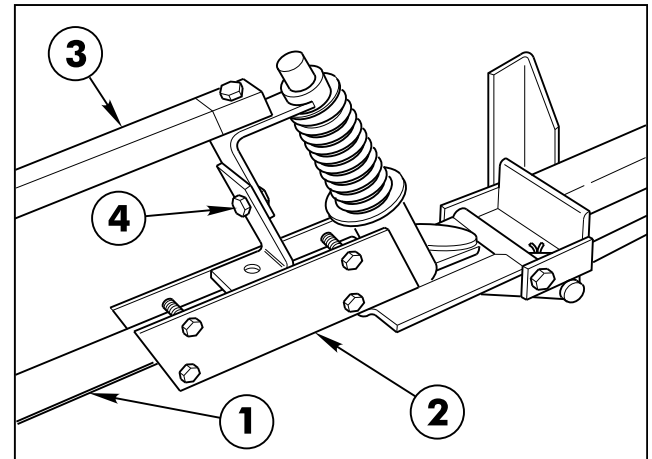

FIG. 11
10. Insert the plugged end of an Extension Boom Pipe into the Pivot Assembly and secure with four (4) 1/4" x 1-1/4" cap screws and lock nuts. Repeat on the opposite side to assemble the other Extension Boom. See FIG. 11.
11. Attach the Boom Support Assembly to the Pivot Assembly, using a 5/16" x 1-1/2" cap screw and lock nut. See FIG. 11 & 12.